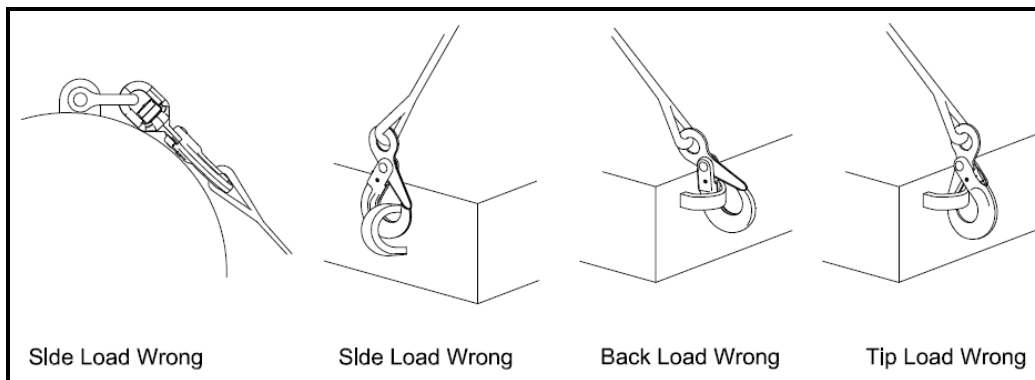

FIGURE 2
- Never side load, back load or tip load a hook. Side loading, back loading and tip loading are conditions that damage and reduce the capacity of the hook. (See Figure 2)